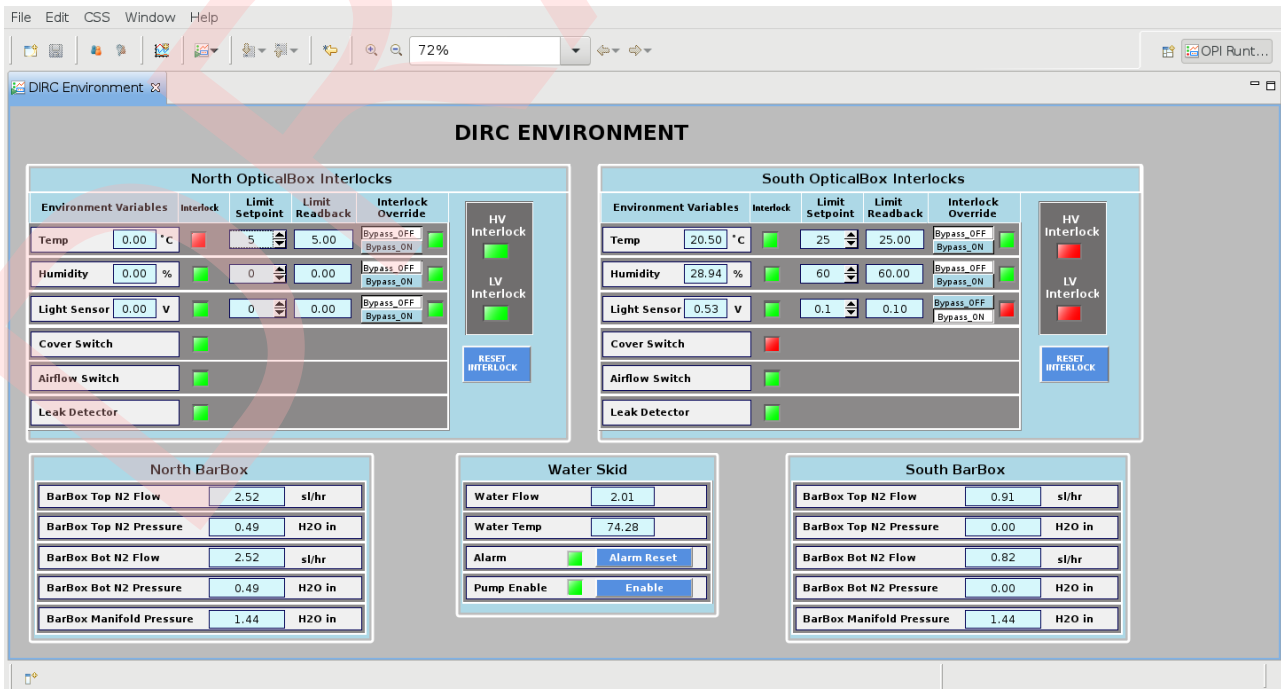

Fig 2 DIRC EPICS Control Screen
In addition, there is a constant clean nitrogen gas purge on the Bar Boxes (BB) and OBs (See D000001002-5001P&ID and fig 8). The flow is controlled manually using a flow meter with a readout that is visible on EPICS (see fig 2). The North BBs are